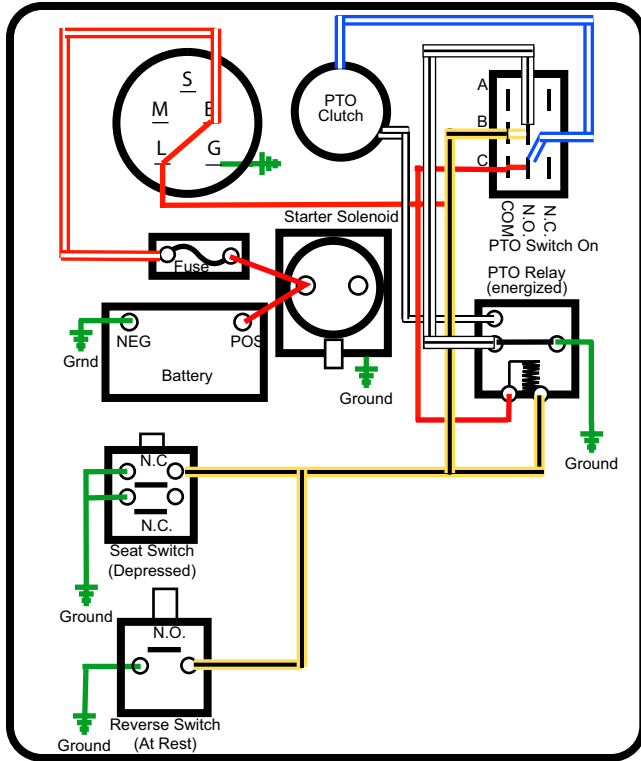

Figure 7.25
1. The PTO clutch loses its ground when the PTO relay is energized. See Figure 7.25.
2. The seat switch contains two sets of contacts. The set with the Yellow/black trace wire leads to ground when the contacts of the seat switch are closed. See Figure 7.25.
3. Once the PTO relay is energized by a ground path through one of the safety switches, it latches. See Figure 7.25.